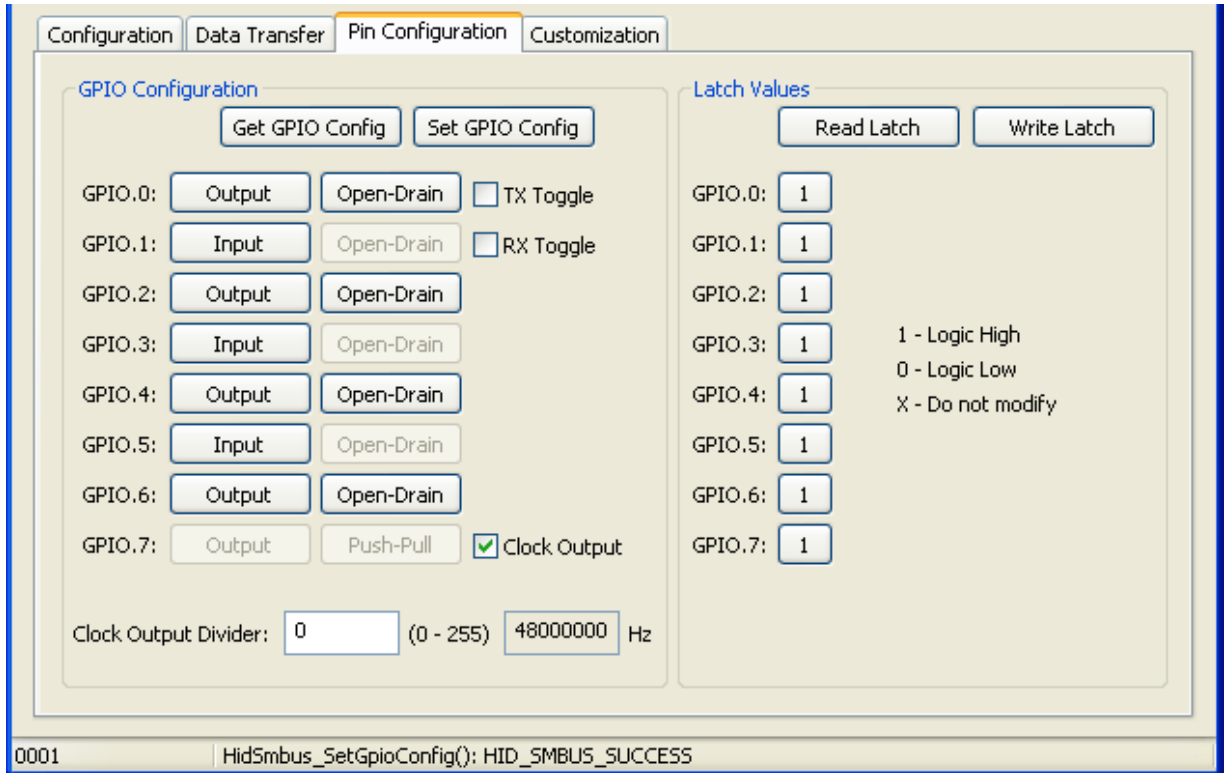

Figure 4. Pin Configuration Tab
10. Figure 4 shows the Pin Configuration tab, which allows you to configure the GPIO and Special Functions (TX Toggle, RX Toggle, and Clock Output).